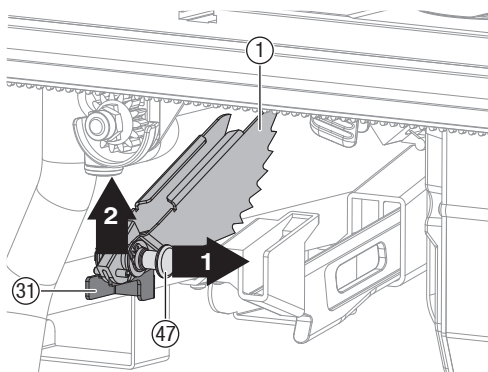

Fig. 5a
## ANTI-KICKBACK PAWLS INSTALLATION (Fig. 5a-5b)
- Pull out and hold knob (47) and push anti-kickback pawls up, remove it from the anti-kickback pawls storage (31) located on inside of the left side of saw. (Fig. 5a)